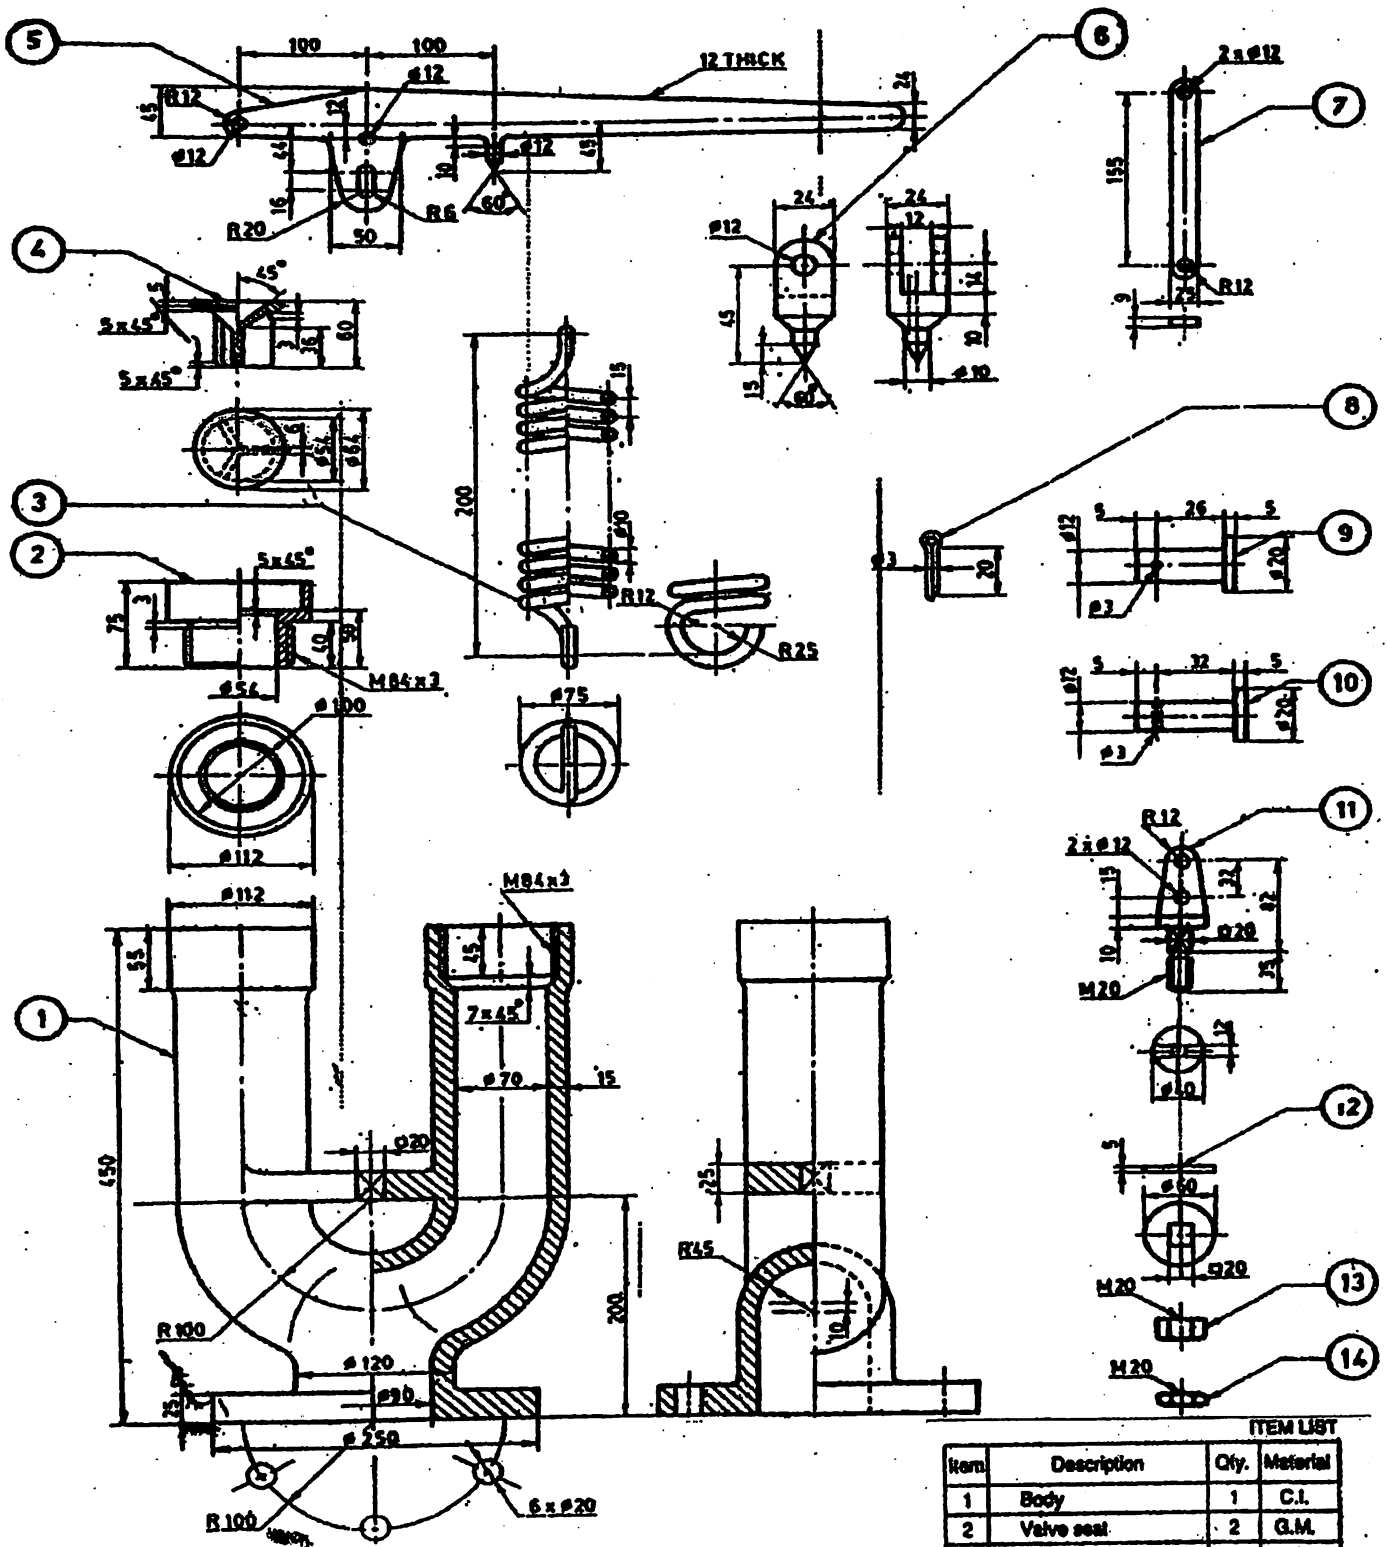

Figure 4
- VI. Details of a Ramsbottom safety valve are shown in figure 4. Draw the following assembled views showing all dimensions: (40)